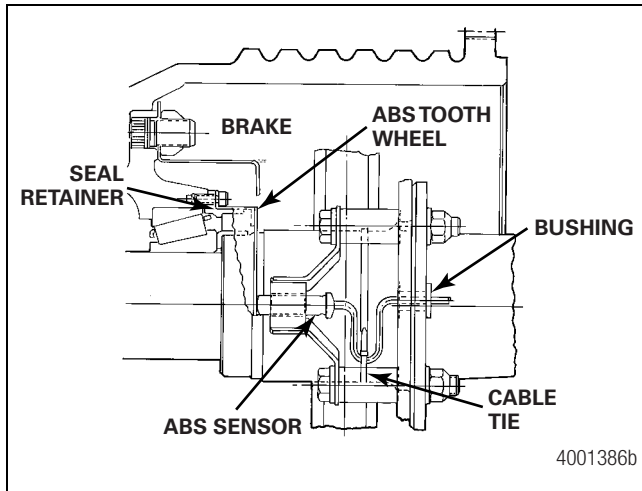

Figure 3.15
2. Remove the bushing on the ABS sensor cable where the cable comes through the housing brake flange. Figure 3.15.